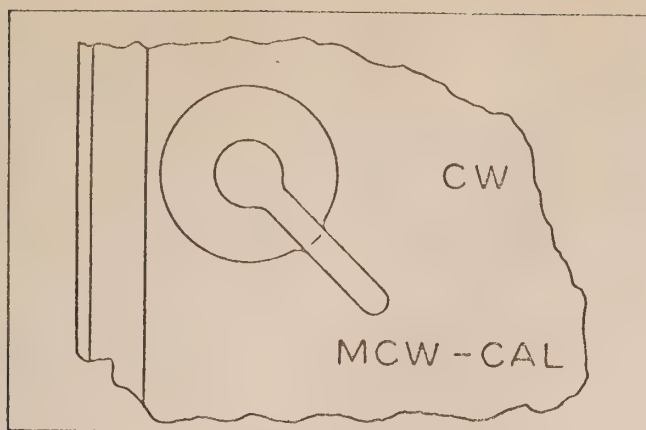
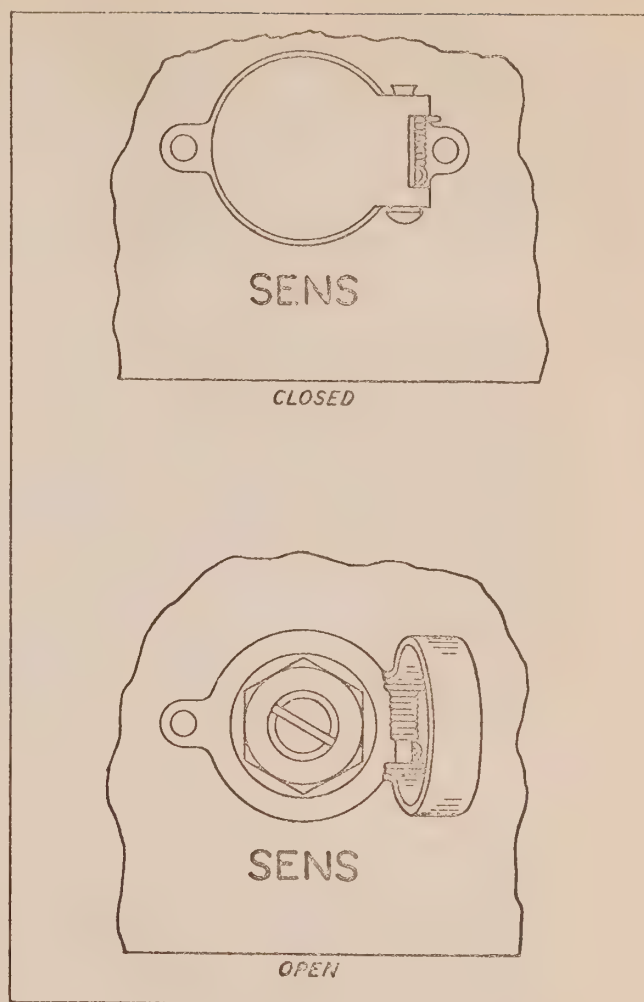

Figure 2-10. CW-MCW-CAL Selector Details
Figure 2-11. Sensitivity Adjustment Details
(6) MCW-CAL-CW SWITCH. — (Refer to figure 2-10). When it is desired to receive either mcw or voice modulated signals this switch should be set at the MCW-CAL position. When the switch is in the MCW position the avc circuit is operative and a variable "T" pad is connected between the output of the audio amplifier and the PHONES jack. When the switch is set at the CW position the avc circuit is partially disabled, the output of the audio amplifier is coupled directly to the phones jack, and the volume is controlled by a cathode potentiometer as explained above.
(7) VOLUME CONTROL. — This control operates two sections of variable resistors, a bridged "T" pad and a potentiometer. The "T" pad is connected between the output of the audio amplifier and the PHONES jack whenever mcw reception is selected. When cw reception is selected, a potentiometer is connected in the cathode circuits of the r-f amplifier and first i-f amplifier tubes. When mcw reception is selected the potentiometer is shorted out.
(8) SENS CONTROL. — The threshold sensitivity is controlled by the screwdriver adjustment marked SENS. (See figure 2-11.) This control is connected in series with the cathodes of the r-f, mixer and i-f stages in the receiver for the purpose of adjusting the sensitivity of the receiver to operate most satisfactorily under conditions of electrical interference. A dust cover is placed over the panel opening behind which this control is located. The SENS control on Radio Set Control C-733A/ARR-15A is adjusted by a knurled knob. It functions exactly as that located on the receiver.